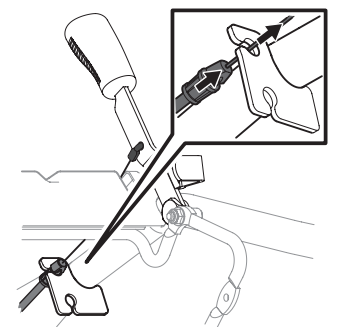

Figure 6
3. Snap the cable tab into place in the upper hole on the handle cable bracket. See Figure 6.